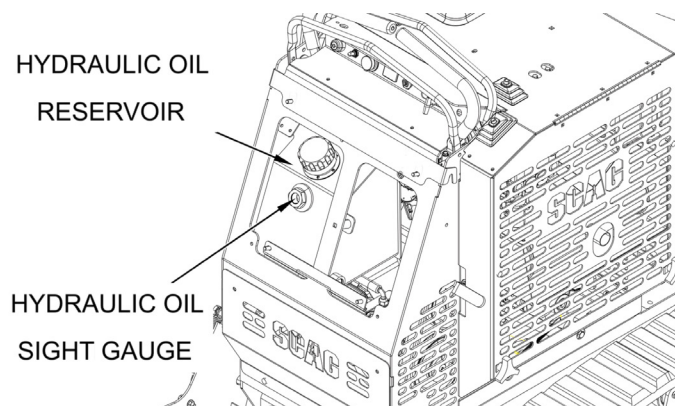

Figure 6-7. Hydraulic Oil Reservoir
4. Check the hydraulic oil level shown in the reservoir sight gauge. See Figure 6-7.